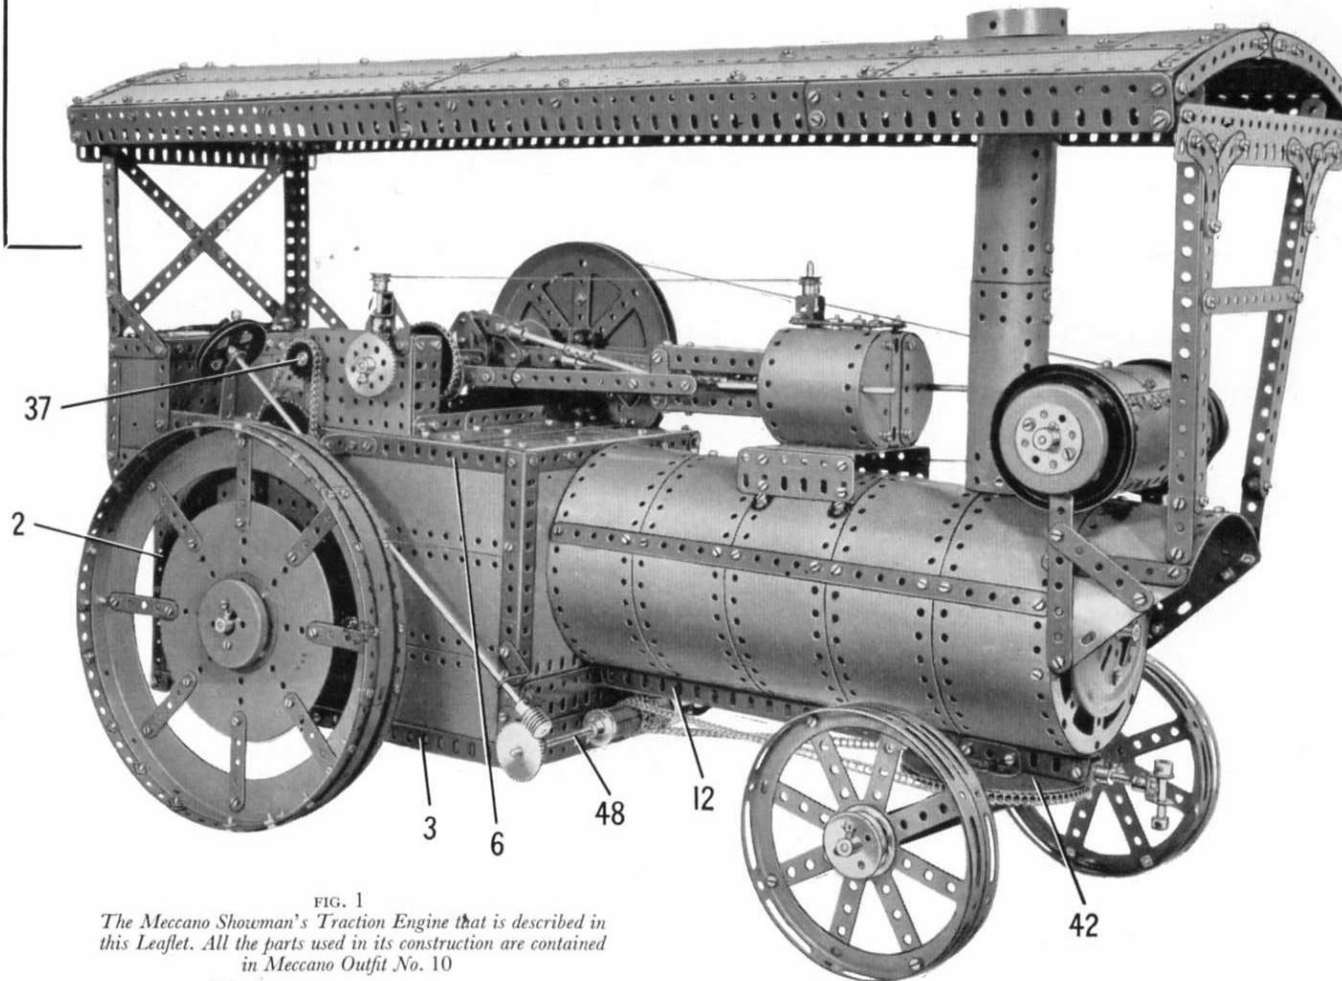

FIG. 1
### Construction of the Body and Coal Bunker (Figs. 1, 2, 4 and 6)
### The Boiler (Figs. 1 and 2)
### The Dynamo (Figs. 1 and 2)
The dynamo seen on top of the boiler at the front, is made by bolting two  $4\frac{1}{2}$ "  $\times$   $\frac{1}{4}$ " Double Angle Strips between two 3" Pulleys. Washers are placed between the lugs of the Double Angle Strips and the Pulleys, to allow two  $5\frac{1}{2}$ "  $\times$   $2\frac{1}{2}$ " Flexible Plates and two  $1\frac{1}{8}$ " radius Curved Plates to be bolted in position as shown in Figs. 1 and 2.
#### Construction of the Canopy and Chimney (Figs. 1, 2 and 5)
The canopy is supported at the rear by two made-up angle girders bolted to  $1\frac{1}{2}$ " Corner brackets (53) (Fig. 6) fixed to the body. Each of these girders consists of a  $4\frac{1}{2}$ " and a 2" Angle Girder. The front supports are made from two built-up girders each consisting of a  $9\frac{1}{2}$ " and a  $7\frac{1}{2}$ " Strip joined by Angle Brackets. The lower ends of these girders are attached to Obtuse Angle Brackets fixed to the boiler cowl. The front and rear canopy supports are braced as shown in Figs 1 and 2.